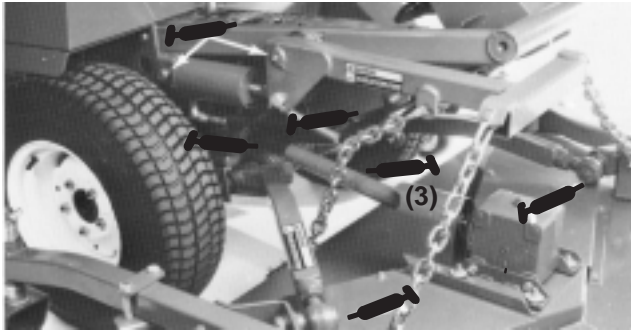

Figure 33
The traction unit bearings and bushings that must be lubricated are: PTO shaft and yokes (3) (Fig. 33); lift arm pivots (Fig. 33); right and left push arm ball joints (Fig. 33); push arm pivot bushings (Fig. 34); PTO pivot housing blocks (Fig. 35); brake pivot bushings (Fig. 36); axle tie rod (2) (Fig. 37); axle pivot pin (Fig. 37); axle steering pivots (2) (Fig. 37); cylinder rod ends (4) (Fig. 37) drive shaft (3) (Fig. 38); clutch housing (Fig. 38) and engine output shaft bearing (Fig. 39). Also apply grease to both brake cables at the drive wheel and brake pedal ends.